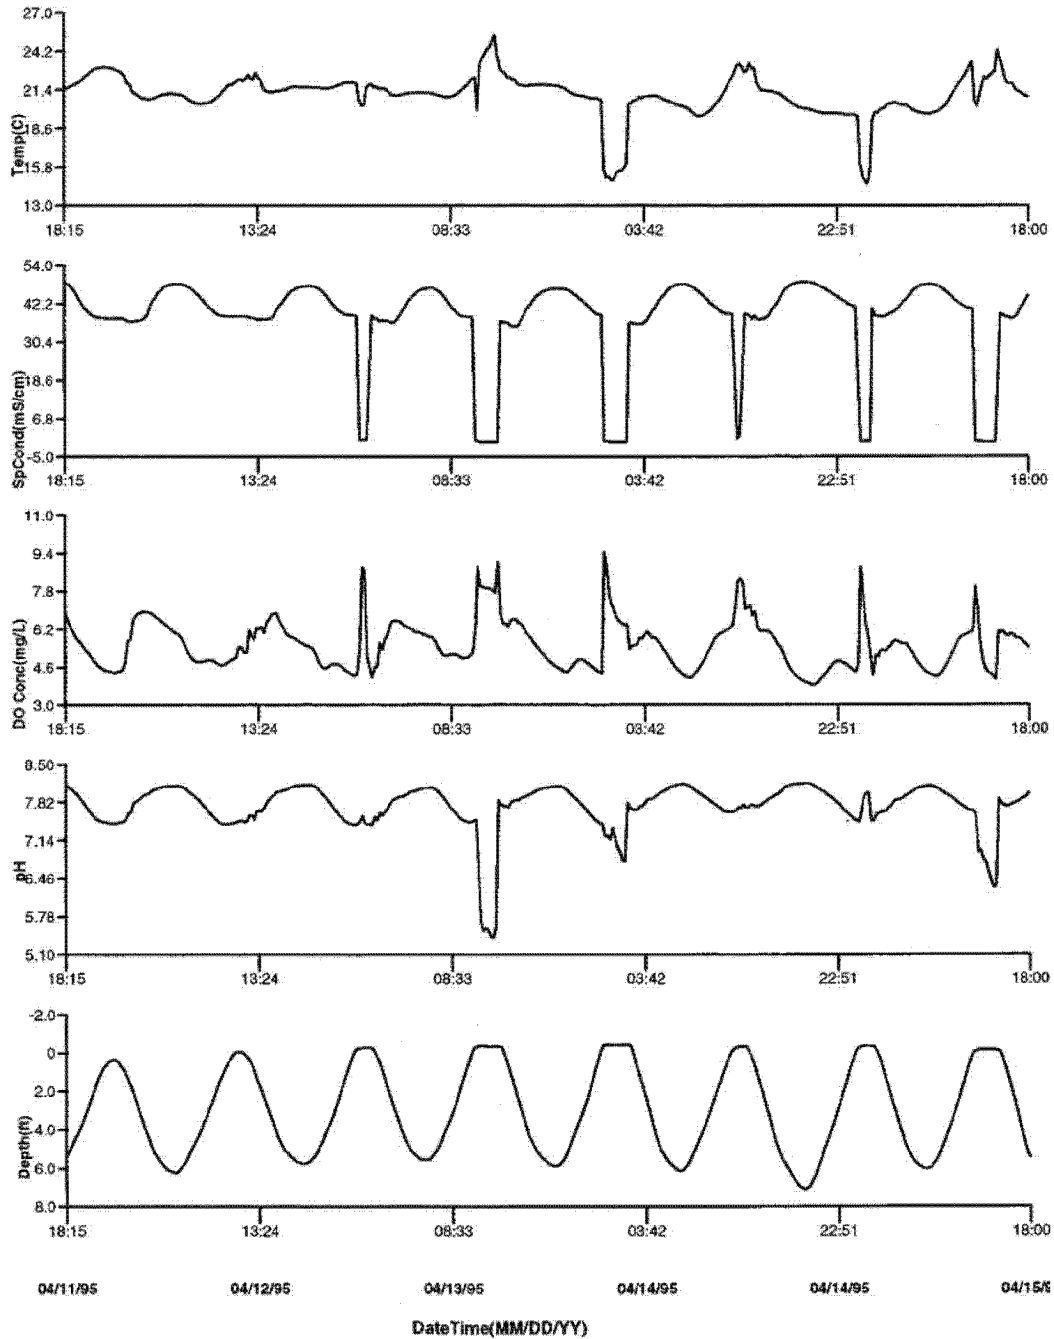

FIGURE 1B
- (1) An unexpected tidal fluctuation,
- (2) An improperly deployed datasonde, or
- (3) Times of pre- and post-deployment when transporting the datasonde.
**An unexpected tidal fluctuation or an improperly deployed datasonde:** Usually these situations will be indicated by a **very low (near zero) or a very sharp decline in conductivity** readings even when the unit is known to be at a site characterized by brackish water. This effect is demonstrated in Figure 1A where it is evident that the water level has dropped below the conductivity sensor on several occasions. In the study associated with Figure 1B, the datasonde seemingly came out of the water midway through the study and remained there.